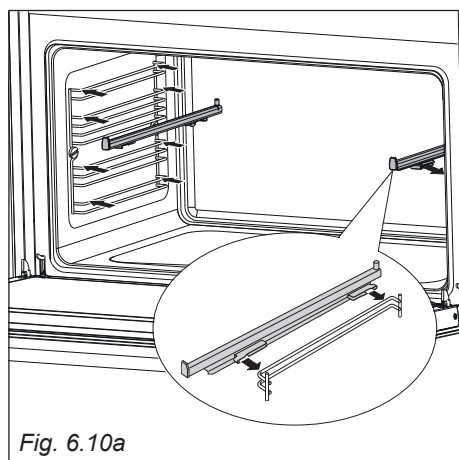

Fig. 6.10a
- Fit the sliding shelf supports onto the top wire of a rack and press (fig. 6.10a). You will hear a click as the safety locks clip over the wire.